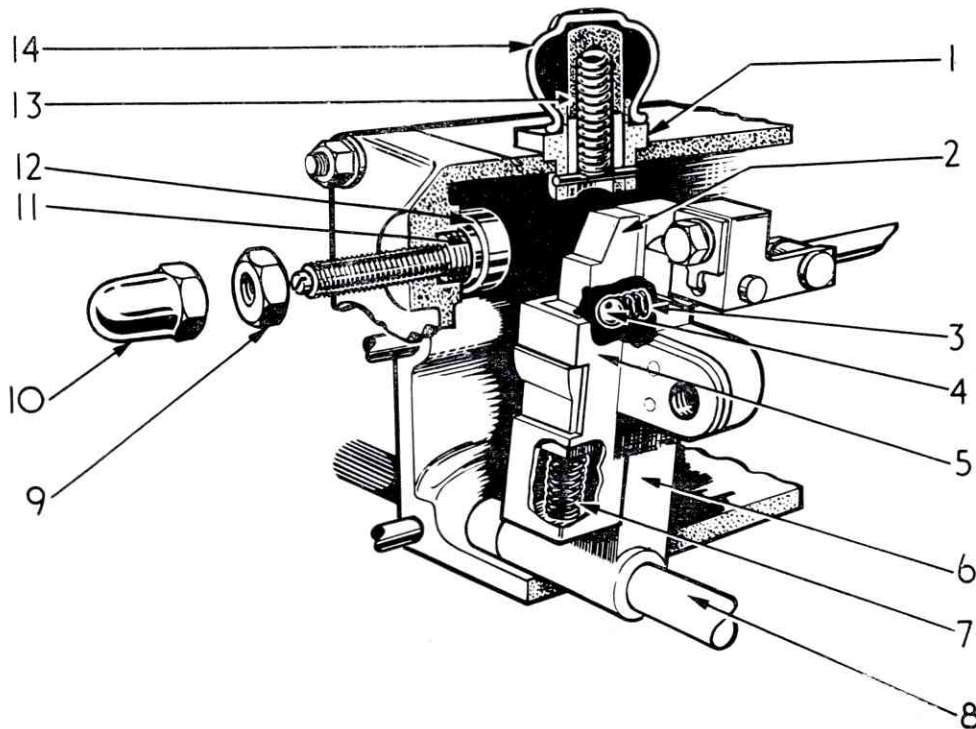

FIG. 90. MAXIMUM FUEL STOP AND BULKING TYPE EXCESS FUEL DEVICE
The construction of the excess fuel device is shown in Fig. 90. Basically, the device consists of a control lever (6) connected to the control rod link and pivoted on a shaft (8). Free to slide in a shroud (5) riveted to the control lever is a stop block (2) acted upon by two springs (3) and (7). A stepped portion of the stop block is engaged in an aperture in the shroud. At the top of the governor housing a spring-loaded plunger is protected at its upper end by a rubber cap (14) and can be depressed to engage the excess fuel device.